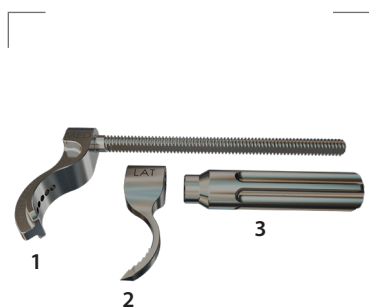

Figure 5
Ensure the reducer is assembled prior to the start of the case by sliding the lateral hook (2) over the reducer track (1) and then threading the knob (3) over the threads of the reducer track (1). (Figure 5)